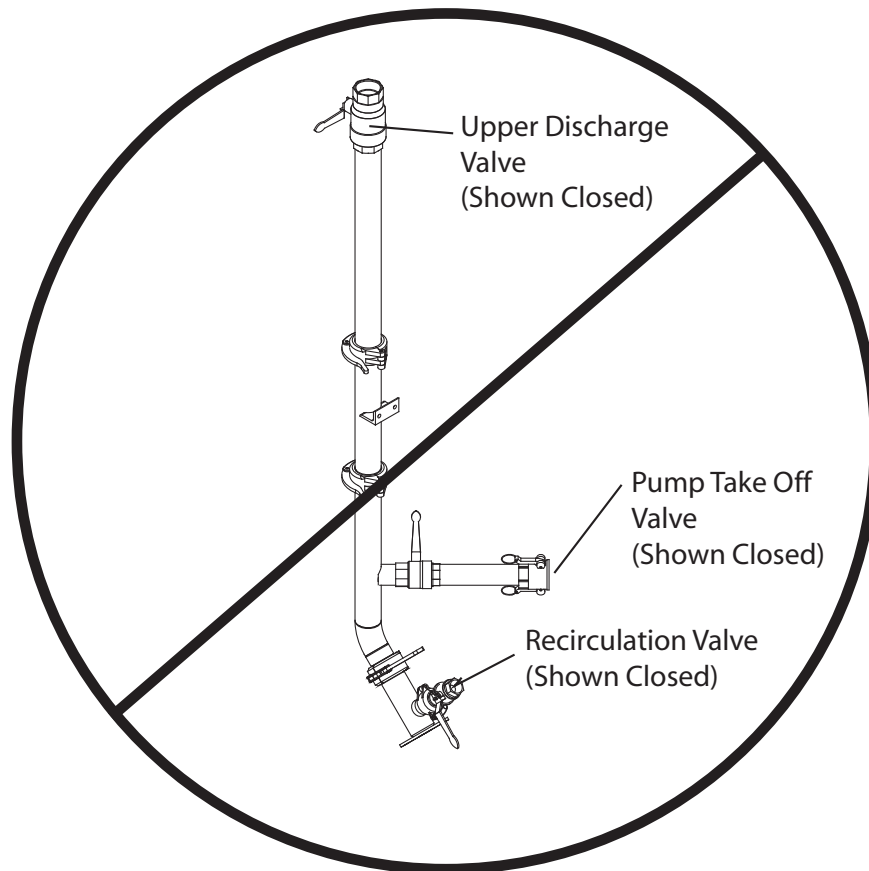

Figure 2 – NEVER Engage (Turn On) Slurry Pump Clutch With All Valves Closed
1. Discharge Hoses: Discharge hoses are available in 50 ft. (15.2 m) and 100 ft. (30.5 m) lengths up to a total of 150 ft. (45.7 m). Hose of a greater length may adversely affect the discharge distance and the discharge time of the HydroSeeder®. All connections are camlock, quick-operating fittings, including the connection at the end of the discharge piping. A nozzle is connected to the remote discharge valve which is connected to the working end of the discharge hose. Once everything is connected, the HydroSeeder® is ready to operate. Flow through the hose and the nozzle is controlled by the remote discharge valve. When using this valve, the recirculation valve on the HydroSeeder® MUST BE OPEN to allow excess material flow back into the tank (see Figure 2).
This HydroSeeder® is equipped with three independently operated ball valves to control slurry flow. See Figure 2 below. The first valve is the recirculation valve. An open recirculation valve allows flow back into the tank. The second valve is the pump take off valve. The pump take off valve allows the material flow to be directed to the hose reel. The third ball valve is the upper discharge valve. An open upper discharge valve allows the material flow through the boom. The ball valves are open when the handle is in line with the piping and is closed when the handle is perpendicular to the piping.